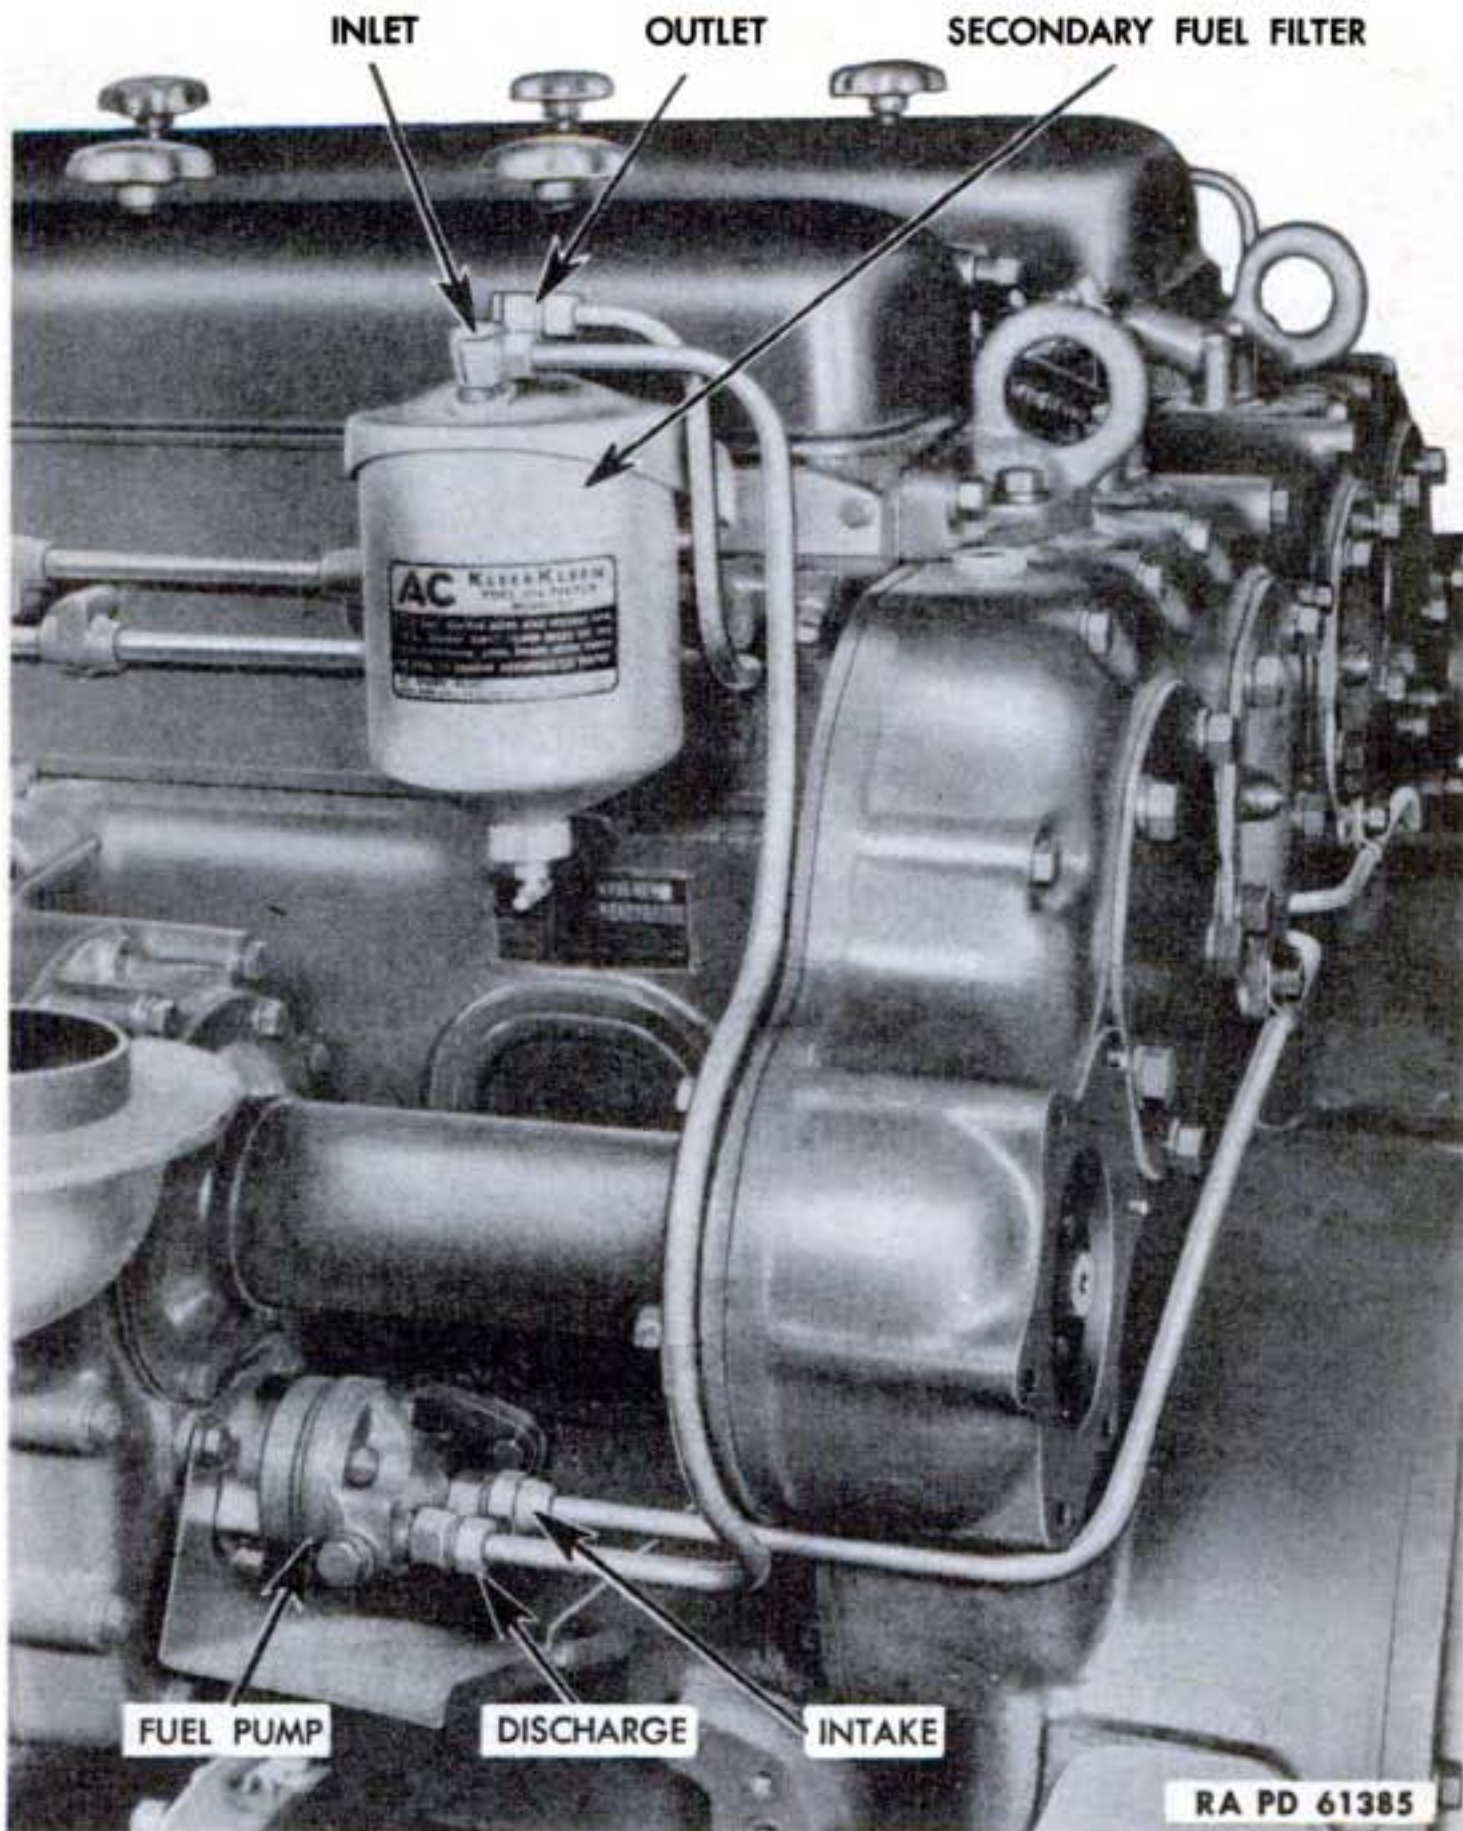

Figure 72—Fuel Pump, Secondary Fuel Filter and Fuel Lines
b. Service Secondary Fuel Filter. Drain off water and sediment every day (par. 29, item 66). Replace element every 500 hours or 5,000 miles or more often as required. Clean only one secondary fuel filter at a time or when primary filter is being cleaned. Turn tank selector valve to "OFF" position. Open drain cock and drain bowl. Remove bowl by screwing out hexagon head stud at bottom and remove stud, bowl, gasket and element. Wipe out bowl clean with cloth soaked in Diesel fuel and close drain cock. Place new gasket over stud and insert stud through bottom of bowl. Place lock washer, new lower gasket, new element, new upper gasket and spring over stud and into bowl. Install new cover gasket and place bowl up against cover. Screw stud onto cover center bolt and tighten. Loosen filter outlet connection. Turn tank selector valve to LH or RH position. Lock out clutch and run other engine until fuel is forced from outlet connection. Tighten connection. Check for leaks and stop engine. Repeat servicing operations for secondary fuel filter on other engine.
a. Description. Each engine has a positive displacement vane type fuel pump (fig. 72) mounted on the flywheel end of the blower housing and driven by the lower rotor shaft. The pump has a capacity of approximately 40 gallons per hour at 2,000 engine revolutions per minute. A spring loaded relief valve in the pump body prevents line pressure rising above 55 pounds per square inch. The pump for the left or LC engine is marked "RH IN". The pump for the right or LA engine is marked "LH IN". The relief valve within the pumps is assembled facing in opposite directions and therefore these markings must be followed when installing a pump.
d. Removal of Fuel Pump. Turn fuel tank selector valve to "OFF" position. Remove air cleaners and cover inlet housing (par. 88 b). Remove bolt attaching support to drip shield (fig. 72). Disconnect both the inlet and outlet fuel lines at the fuel pump. Remove three bolts attaching fuel pump to blower end cover, with fuel pump wrench (41-W-495-100). Remove drip shield, fuel pump and gasket. Remove drive fork from inner end of pump shaft.